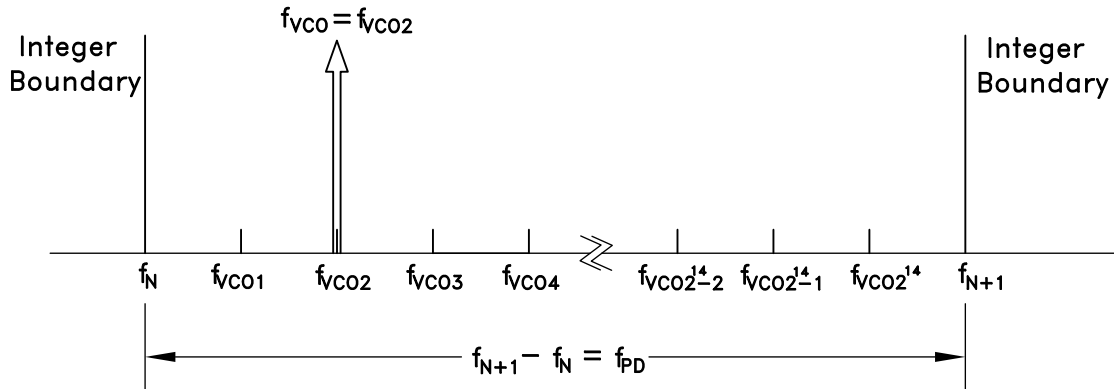

Figure 23. Exact Frequency Tuning
and  $f_{VCOk}$  are the channel step frequencies where  $0 < k < 2^{24}-1$ , As shown in Figure 23.
Some fractional PLLs are able to achieve this by adjusting (shortening) the length of the Phase Accumulator (the denominator or the modulus of the Delta-Sigma modulator) so that the Delta-Sigma modulator phase accumulator repeats at an exact period related to the interval frequency ( $f_{VCOk} - f_{VCO(k-1)}$ ) in Figure 23. Consequently the shortened accumulator results in more frequent repeating patterns and as a result often leads to spurious emissions at multiples of the repeating pattern period, or at harmonic frequencies of  $f_{VCOk} - f_{VCO(k-1)}$ . For example, in some applications, these intervals might represent the spacing between radio channels, and the spurious would occur at multiples of the channel spacing.
If it is desirable to have multiple, equally spaced, exact frequency channels that fall within the same interval (ie.  $f_N \leq f_{VCOk} < f_{N+1}$ ) where  $f_{VCOk}$  is shown in Figure 23 and  $1 \leq k \leq 2^{14}$ , it is possible to maintain the same integer-N (Reg 03h) and exact frequency register (Reg 0Ch) settings and only update the fractional register (Reg 04h) setting. The Exact Frequency Channel Mode is possible if (EQ 17) is satisfied for at least two equally spaced adjacent frequency channels, i.e. the channel step size.
To configure Hittite PLL for Exact Frequency Channel Mode, initially and only at the beginning, integer (Reg 03h) and exact frequency (Reg 0Ch) registers need to be programmed for the smallest  $f_{VCO}$  frequency ( $f_{VCO1}$  in Figure 23), as follows:
1. Calculate and program the integer register setting  $\text{Reg 03h} = N_{INT} = \text{floor}(f_{VCO1}/f_{PD})$ , where  $f_{VCO1}$  is shown in Figure 23 and corresponds to minimum channel VCO frequency. Then the lower integer boundary frequency is given by  $f_N = N_{INT} \cdot f_{PD}$ .
$$\text{Reg04h} = N_{FRAC} = \text{ceil} \left( \frac{2^{24} (f_{VCOk} - f_N)}{f_{PD}} \right) \quad \text{where } f_N = \text{floor}(f_{VCO1}/f_{PD}), \text{ and } f_{VCO1}, \text{ as shown in Figure 23, represents the smallest channel VCO frequency that is greater than } f_N.$$
4. To change from channel 1 ( $f_{VCO1} = 2000.2$  MHz) to channel 2 ( $f_{VCO2} = 2000.3$  MHz), only **Reg 04h** needs to be programmed, as long as all of the desired exact frequencies  $f_{VCOk}$  (Figure 23) fall between the same integer-N boundaries ( $f_N < f_{VCOk} < f_{N+1}$ ). In that case